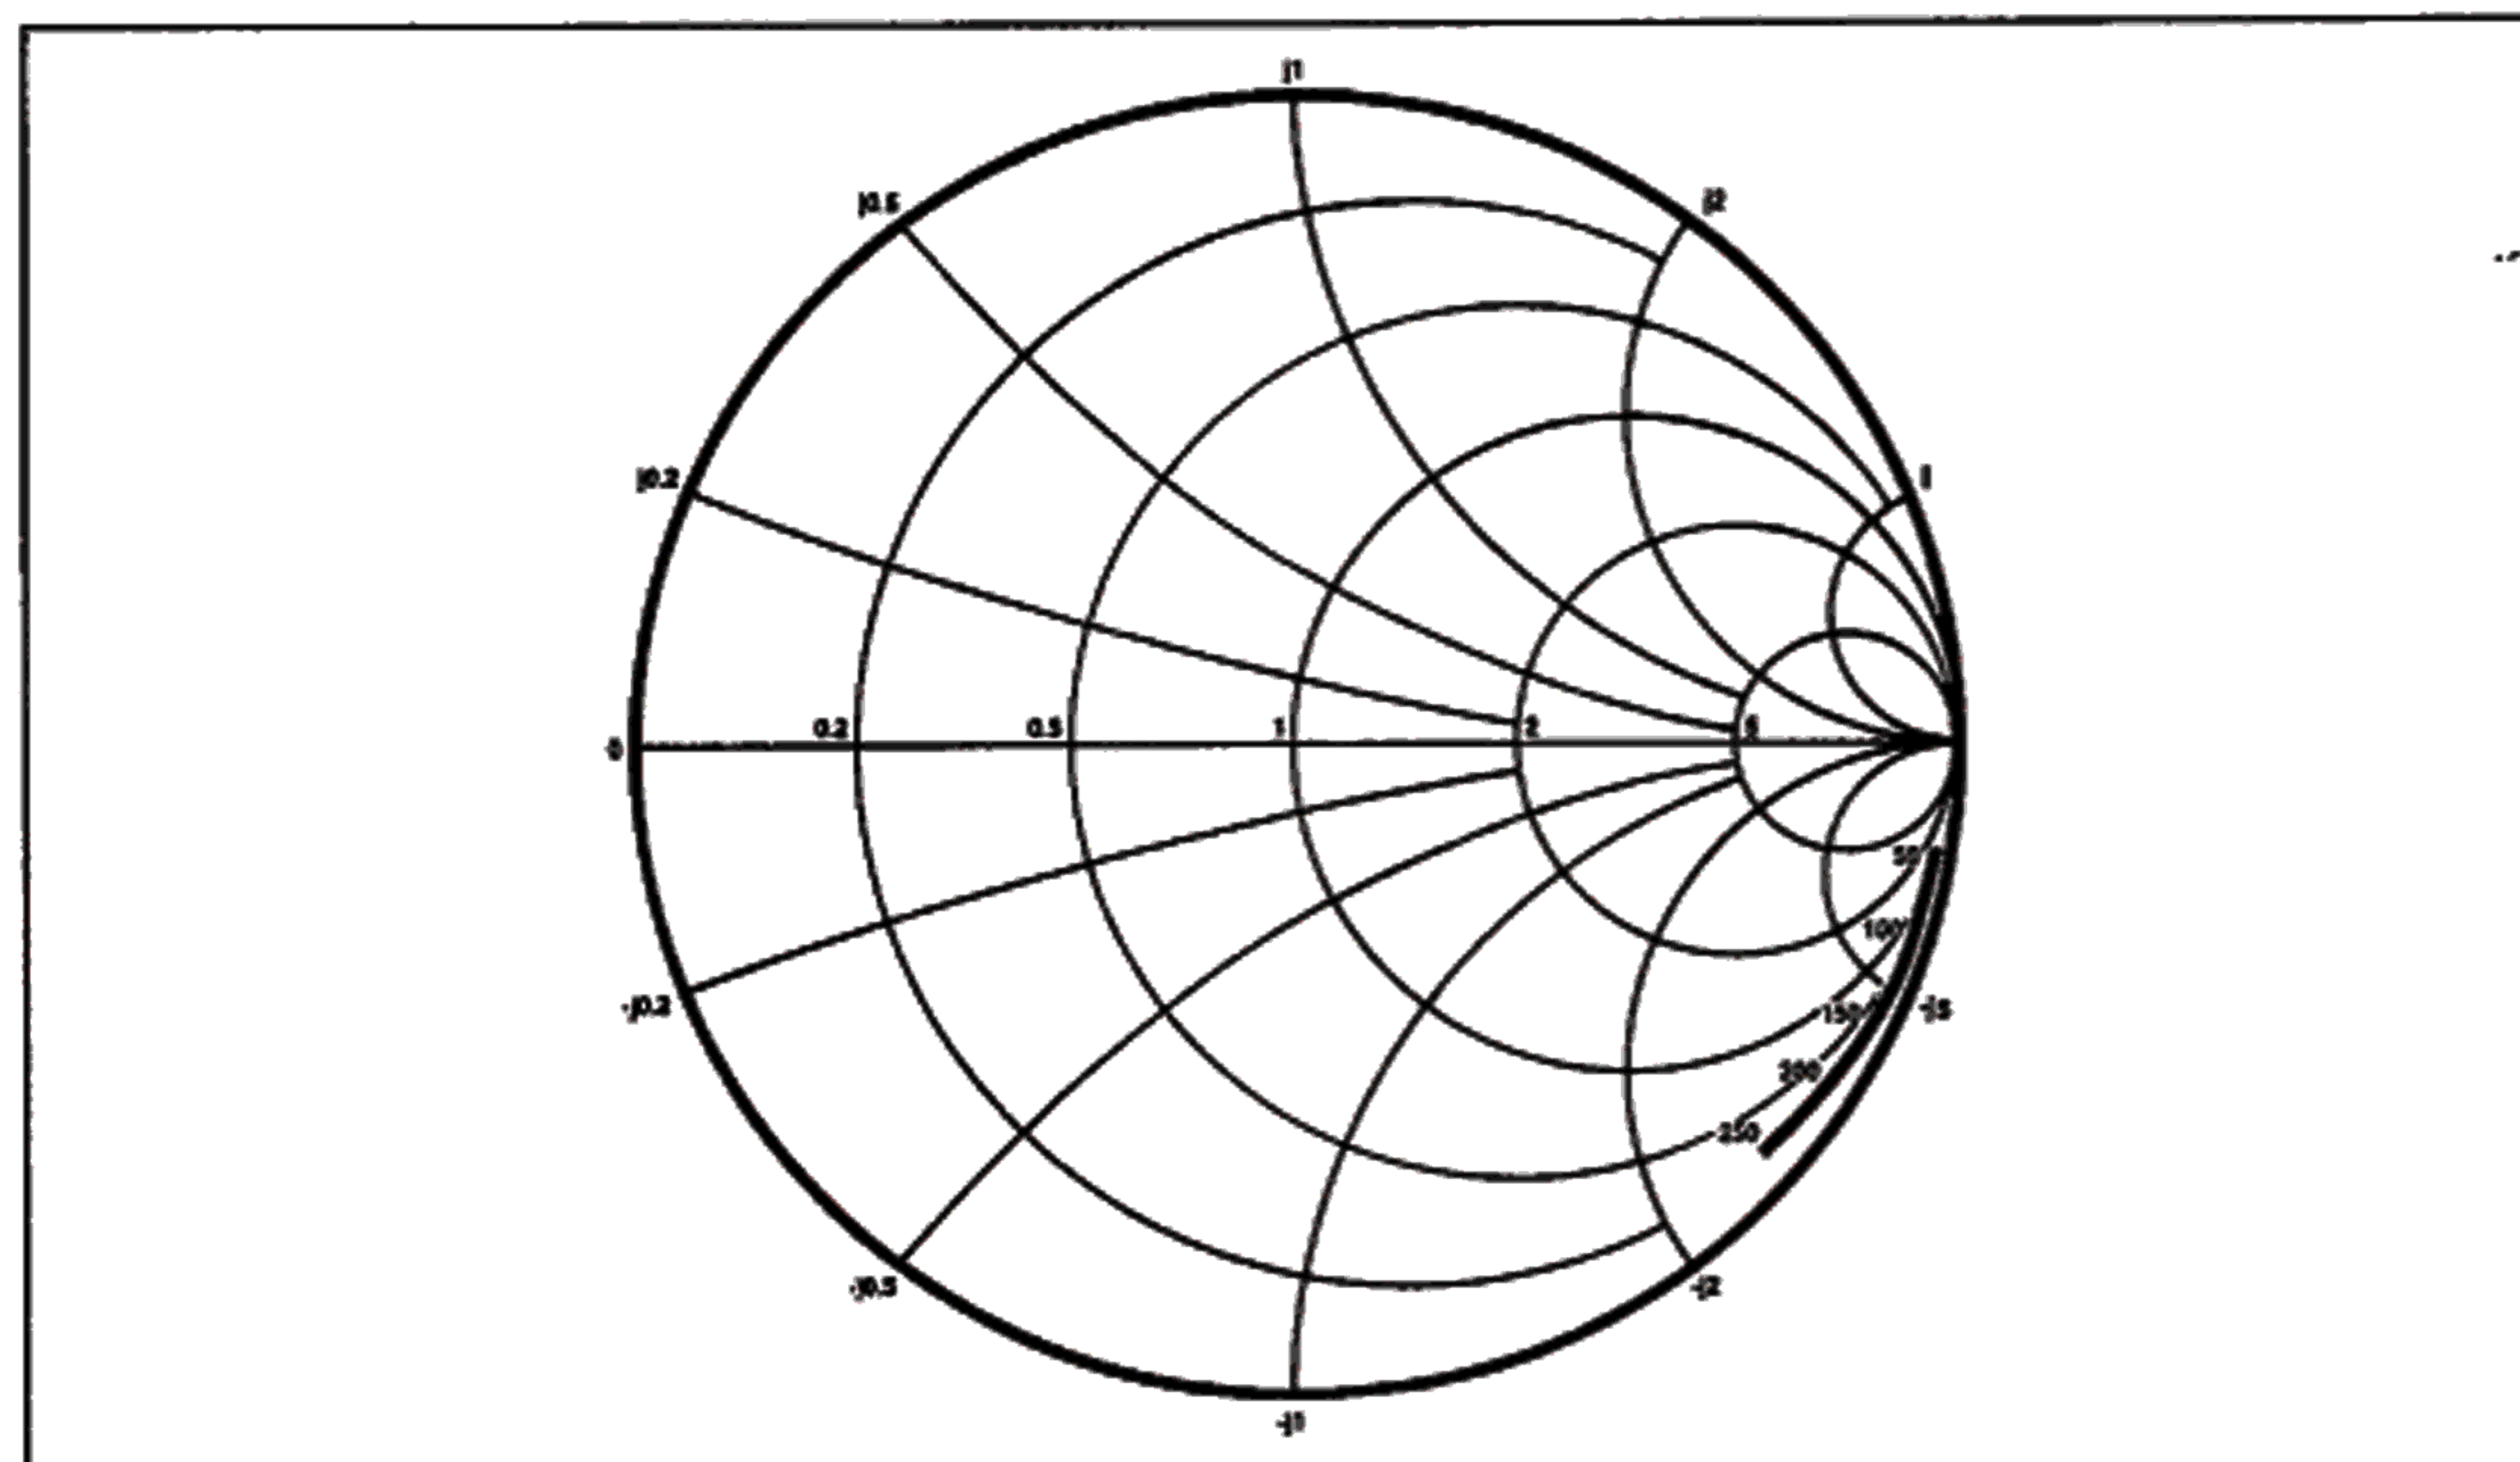

Fig.5 Typical input impedance. Test conditions: supply voltage 5.0V, ambient temperature 25°C, frequencies in MHz, impedances normalised to 50 Ohms.
5. The input impedance of SP8695 varies as a function of frequency. See Fig. 5.